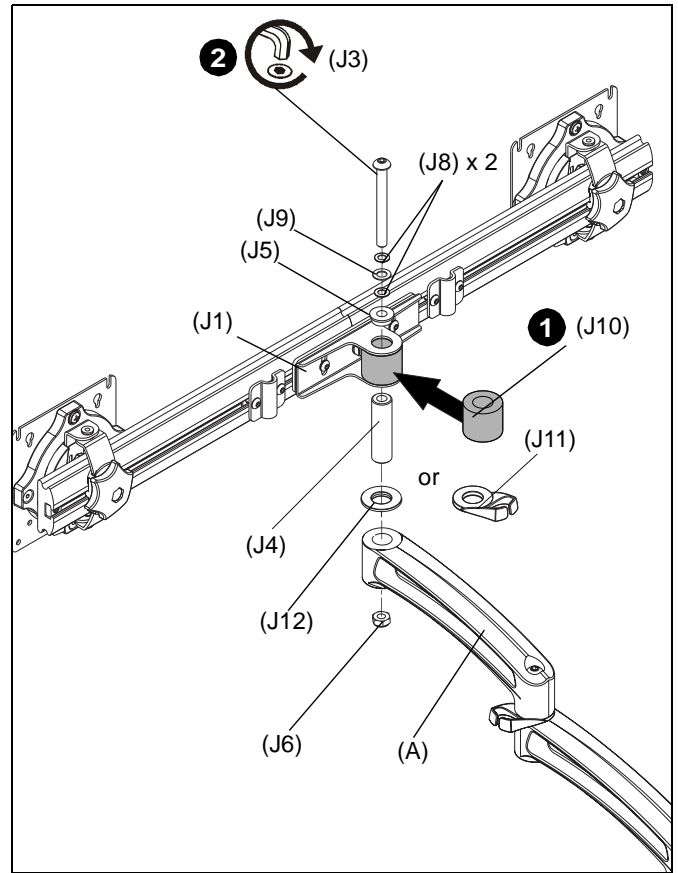

Figure 10
1. Slide rotational spacer (J10) into opening on array attachment bracket. (See Figure 10)
2. Use 5/16-18 x 3" button head cap screw (J3), two thin steel washers (J8), plastic spacer (J9), pocket washer (J5), pivot pin (J4), pivot point spacer (J12) and 5/16-18 lock nut (J6) to secure array (J1) to K2 arm (A). (See Figure 10)
NOTE: Cable clip (J11) can be used in place of pivot point spacer (J12) if additional cable management is desired. (See Figure 10)